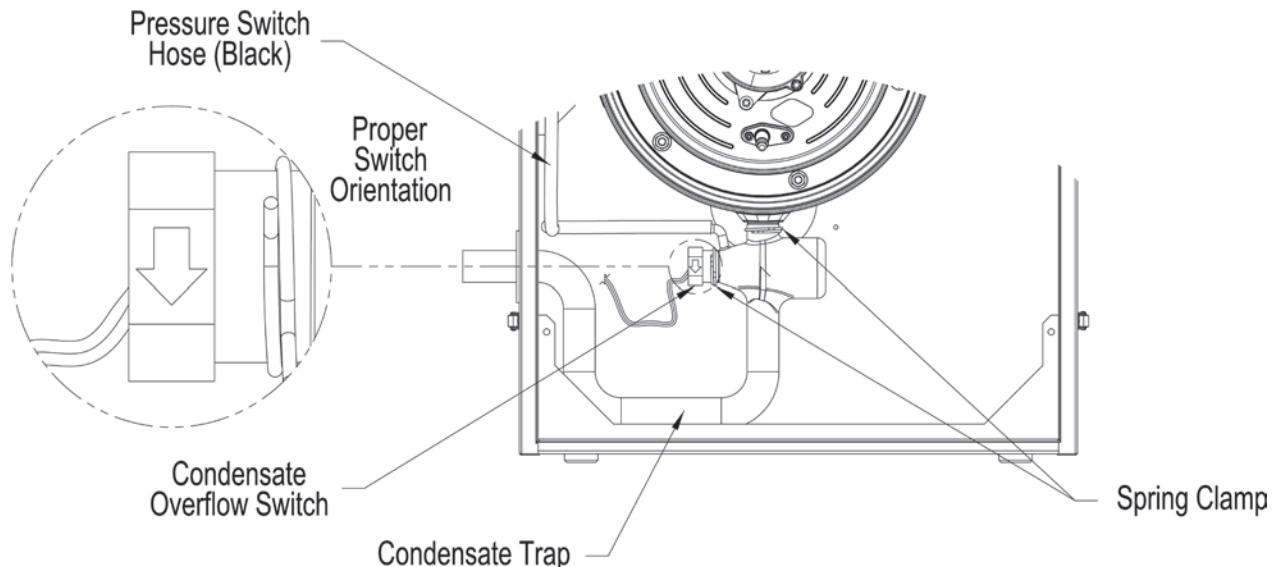

Figure 40: Condensate Overflow Switch Orientation
- e. Apply silicon sealant to the replacement switch threads and install the switch into the trap body making sure it is properly oriented - the arrow molded into the switch hex end side must face down for proper switch operation. See Figure 40 “Condensate Overflow Switch Orientation” for details.
- j. Insure that fresh silicon sealant is applied to the overflow switch threads and the switch is properly oriented relative to the trap body - the arrow molded into the switch hex side end must face down for proper switch operation. See Figure 40 “Condensate Overflow Switch Orientation” for details.